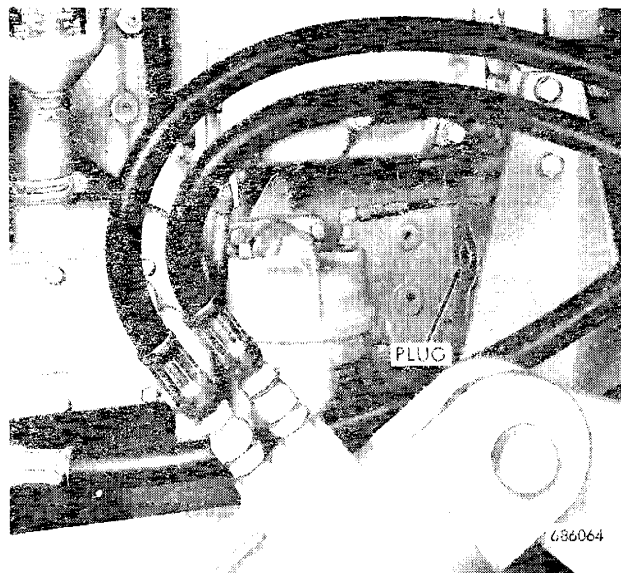

Figure 2
- a. Remove plug shown in Figure 2.